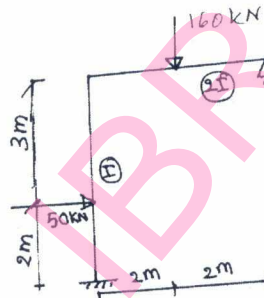

Fig. Q7
- 7 Analyse the frame shown in Fig. Q7 by stiffness matrix method. Draw BMD and elastic curve. (20 Marks)